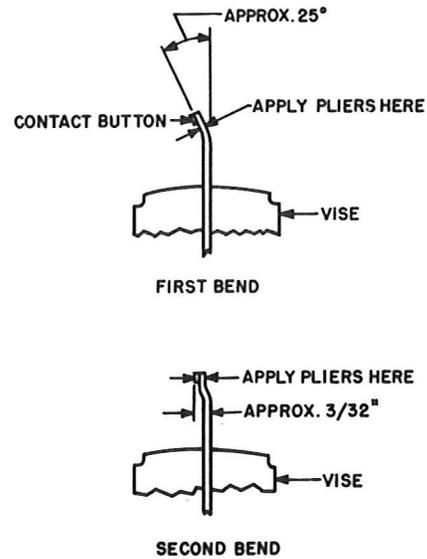

Fig. 3 — Modifying No. 22 Electrode
**3.14** To modify the movable electrode, remove this electrode from the welding pliers as covered in 3.16. Clamp the electrode in a vise as shown in Fig. 3 so that the tip of the electrode is approximately 1/2 inch above the jaws of the vise. Place the tips of the long-nose pliers over the electrode just behind the contact button at the points designated in the figure for making the first bend. Bend the tip of the electrode in the direction of the contact button so that the tip is at an angle of approximately 25 degrees with the main portion of the electrode. Then, place the tips of the pliers over the contact button at the points designated in the figure for making the second bend. Bend the tip of the electrode back so that the contact button is approximately parallel to the main portion of the electrode as shown in the figure. With this bend the contact button should be offset approximately 3/32 inch from the main portion of the electrode. After bending, make sure that the main portion of the electrode has a slight convex bow on the side of the contact buttons as provided during manufacture. This bow insures close contact between the electrode and the jaw of the welding pliers when the electrode is mounted on the jaw. After modifying the electrode, insulate the electrode as follows. Cut a piece of plastic electrician's tape approximately 3/4 inch long. Place the tape on the electrode approximately 1/8 inch below the contact button and trim the tape to conform with the sides of the electrode using a single-edged razor blade.